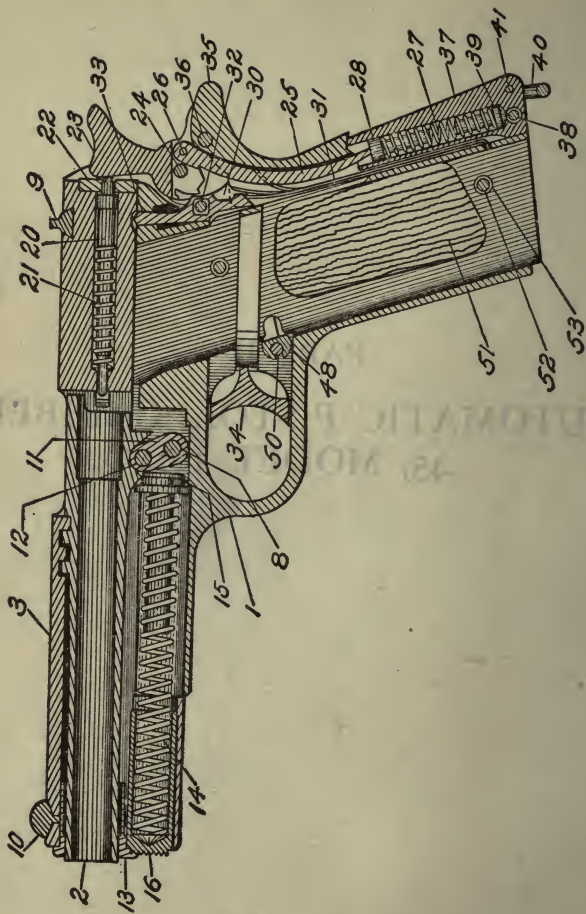

FIG. 21.—Automatic Pistol, Model 1911.
**102. PARTS.** There are 53 parts to the pistol as follows (Fig. 21) :